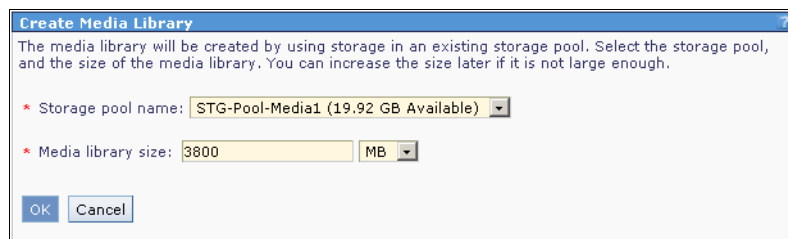

Figure 6-5 Media library - specify library size and volume group
5. Specify the storage pool that will contain the logical volume with the media library and the size of the media library. We used the volume group created in step 1 on page 212. The initial size was set to hold the AIX 6.1 DVD with a size of approximately 3.6 GB. See Figure 6-5. Click **OK**.